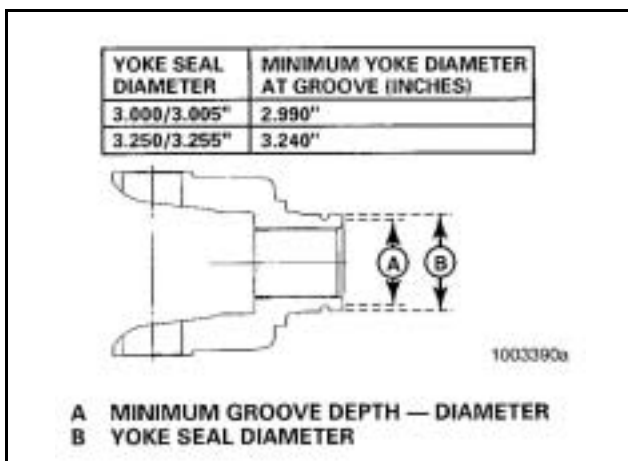

Figure 52
- **If you find grooves on the yoke:** Use calipers to measure the groove diameters. If any groove diameter measures less than the dimensions shown in **Figure 52**, replace the yoke.